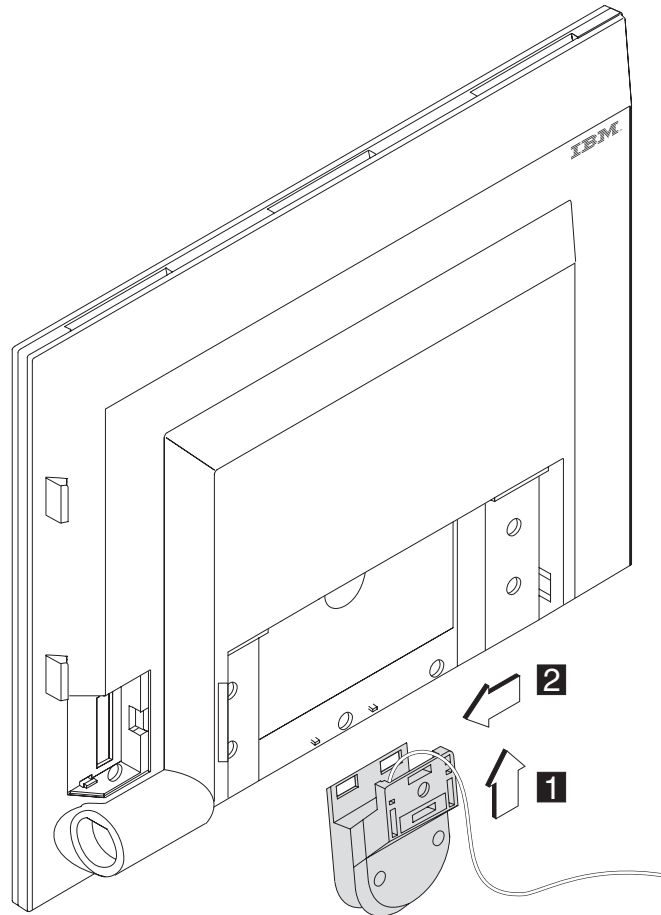

Figure 48. 4820 SurePoint Solution with optional pointing device
**Note:** The following steps assume that you align the 4820 and the pointing device as shown in Figure 48 on page 49.
2. Align the pointing device slightly right of center of the 4820 SurePoint Solution (see **1** in Figure 48).